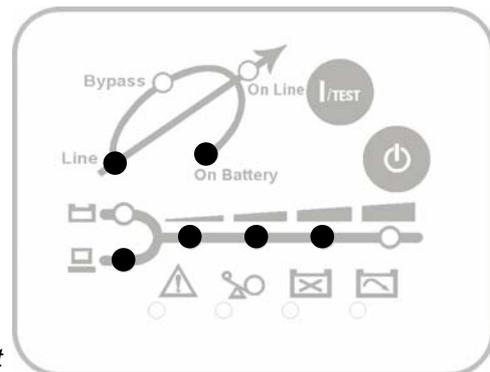

Fig. 3.5 UPS self test
Press the 'I/TEST'-button (1) when the UPS is in 'ON LINE' mode. The UPS will shift to 'ON BATTERY' mode and automatically perform a self-test for about 10 seconds (as in fig. 3.5). The self-test function will check the condition of the battery. After self-test is finished and test is O.K, the UPS will return to 'ON LINE' mode.